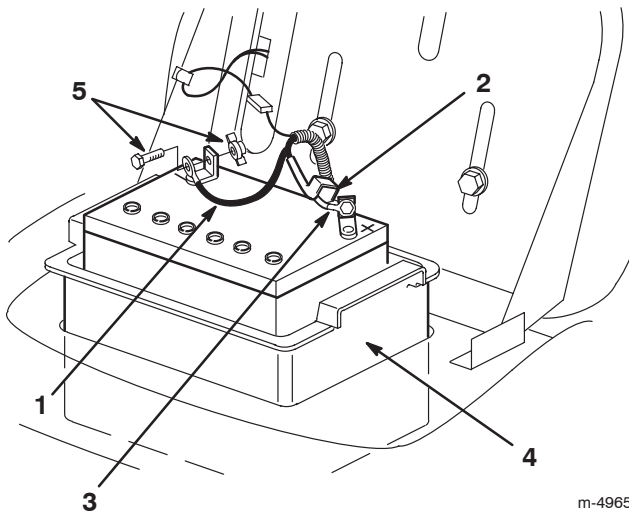

Figure 25
4. Disconnect the negative (black) ground cable from the battery post (Fig. 25).
- Slide the rubber cover up the positive (red) cable. Disconnect the positive (red) cable from the battery post (Fig. 25).
- Remove the battery box and battery from the chassis (Fig. 25).
- Put the battery into the battery box and install it into the chassis (Fig. 25).
- Using the bolt and wing nut, connect the positive (red) cable to the positive (+) battery post (Fig. 25). Slide the rubber cover over the battery post.
- Using the bolt and wing nut, connect the negative (black) cable to the negative (–) battery post (Fig. 25).